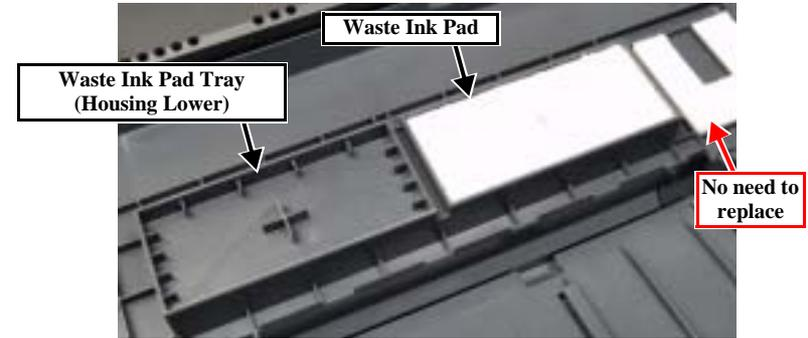

Figure 4-31. Removing the Waste Ink Pads
2. Remove Waste Ink Pads (x2) from the Housing Lower. (Fig. 4-31)